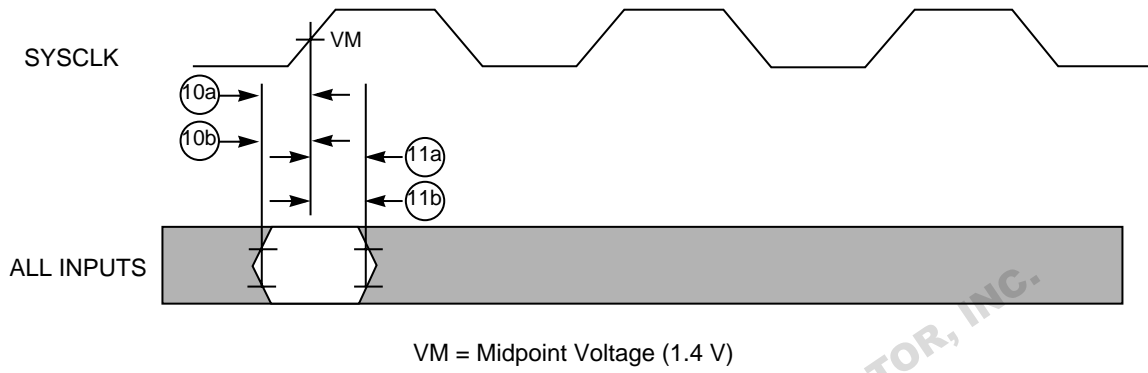
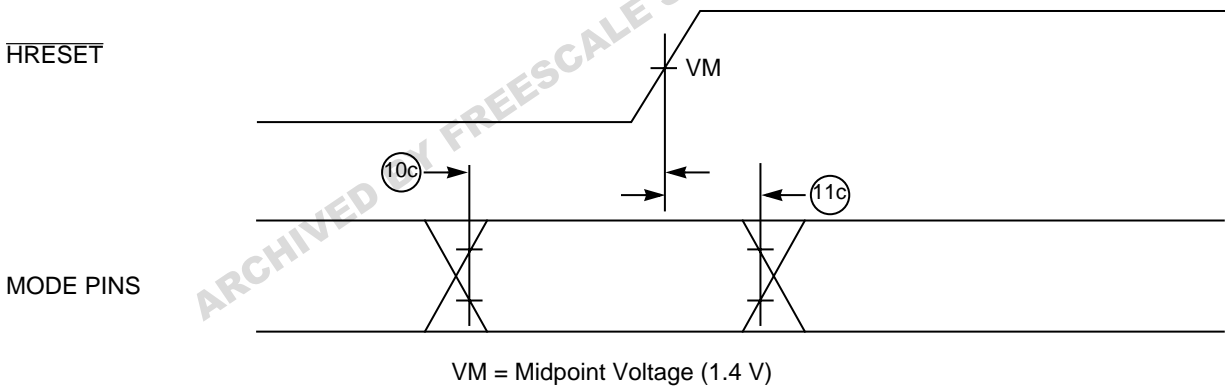

Figure 2. Input Timing Diagram
Figure 3. Mode Select Input Timing Diagram
Table 7 provides the input AC timing specifications for the 603e as defined in Figure 2 and Figure 3.
- All input specifications are measured from the TTL level (0.8 or 2.0 V) of the signal in question to the 1.4 V of the rising edge of the input SYSCLK (see Figure 2). Both input and output timings are measured at the pin.
- The setup and hold time is with respect to the rising edge of  $\overline{\text{HRESET}}$  (see Figure 3).
Figure 2 provides the input timing diagram for the 603e.
Figure 3 provides the mode select input timing diagram for the 603e.